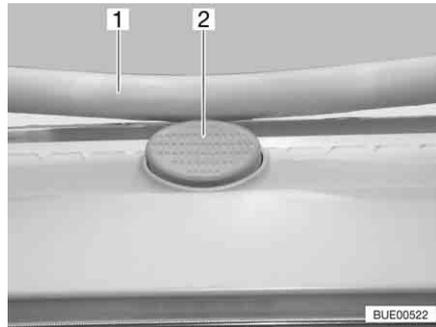

Fig. 84 Safety knob on the Heki skylight
- Press the safety knob (Fig. 84,2) and pull the bar (Fig. 84,1) down with both hands.
- Push the bar upwards with both hands until it is above the safety knob (Fig. 84,2).